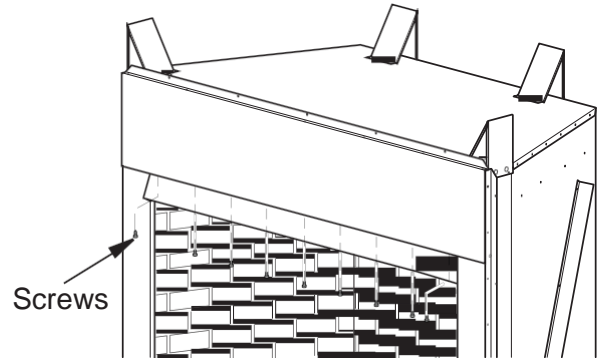

Figure 14 - Screw and Hood Placement
1. Attach hood to firebox using screws provided (see Figure 14).